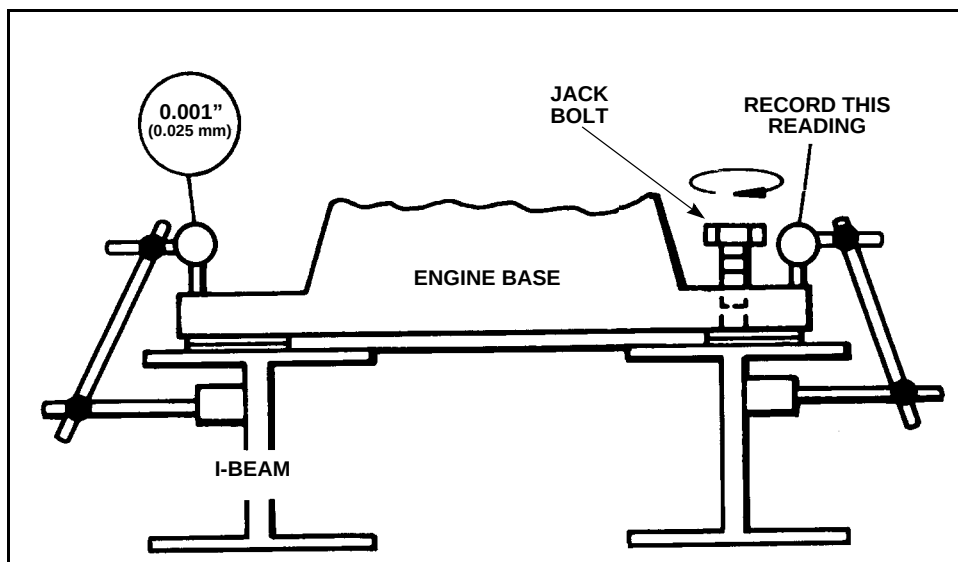

Figure 2-10 Record the Right Free Corner Indicator Reading
4. Raise the right free corner until the left indicator reads 0.001 in. (0.025 mm). Record the right free corner indicator reading (Figure 2-10).